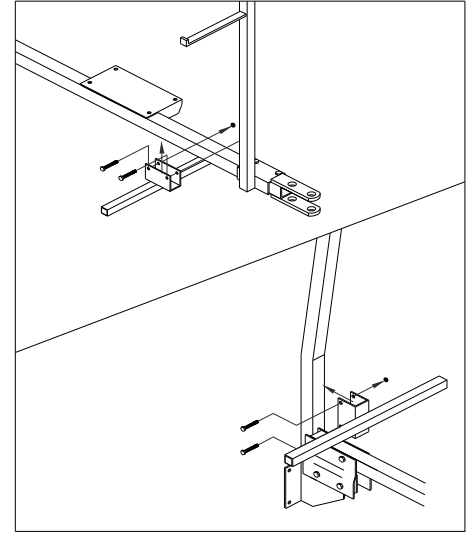

Fig. 12
11. Slide one of the Lift handles (26) under the drawbar and centered between the engine plate and the hose support. Secure with 5/16" x 2 1/2" HHC and whizlock nuts. The 2nd Lift handle attaches to Vertical upright tube (3) as low as it will go. Secure with 5/16" x 2 1/2" HHC and whizlock nuts. **Fig. 12**